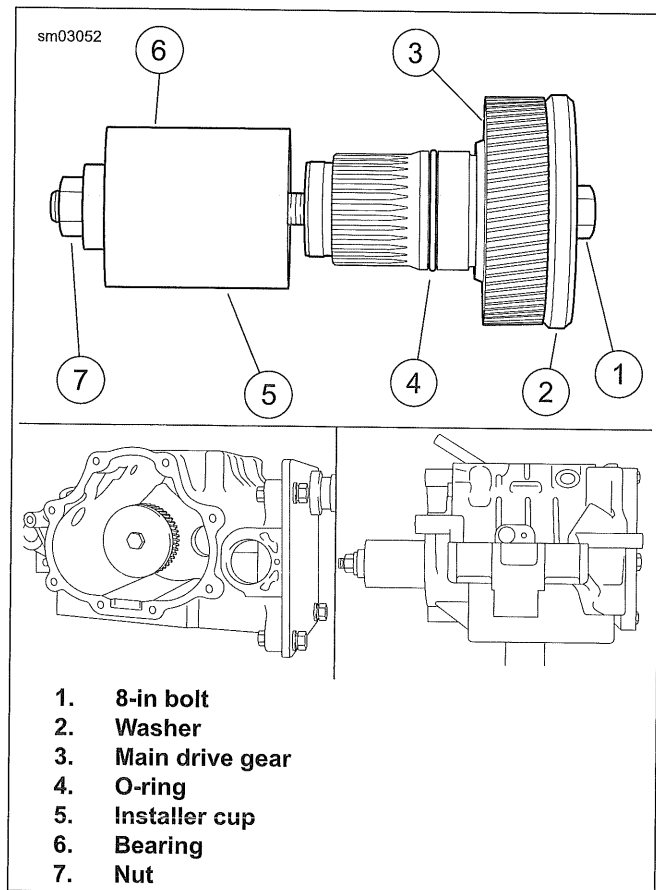

Figure 5-65. Installing Main Drive Gear (Typical)
2. See Figure 5-65. Install **new** O-ring (4) onto main drive gear (3). Lubricate O-ring with clean engine oil.